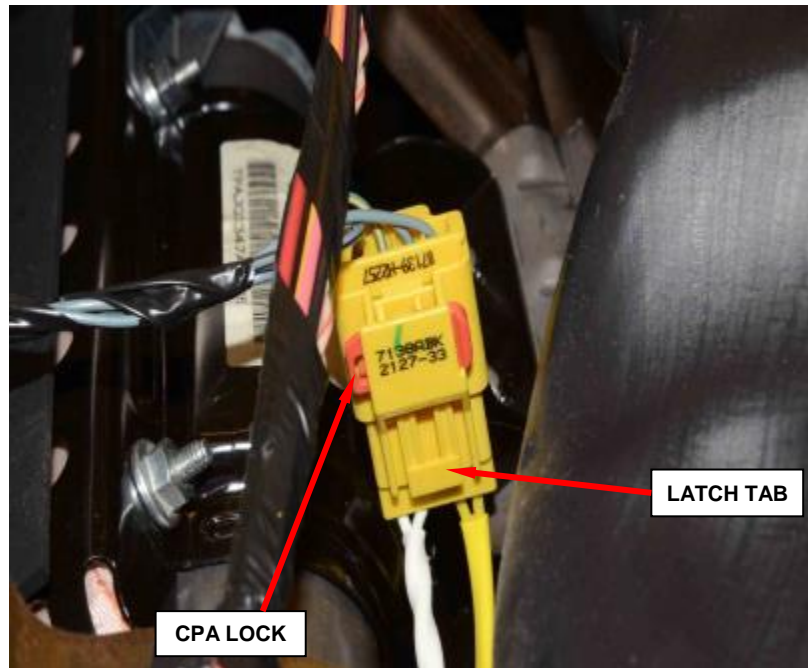

Figure 87 - Airbag Inflator Pigtail Connector
- Slide the red Connector Position Assurance (CPA) lock on the connector toward the side of the connector (Figure 87).